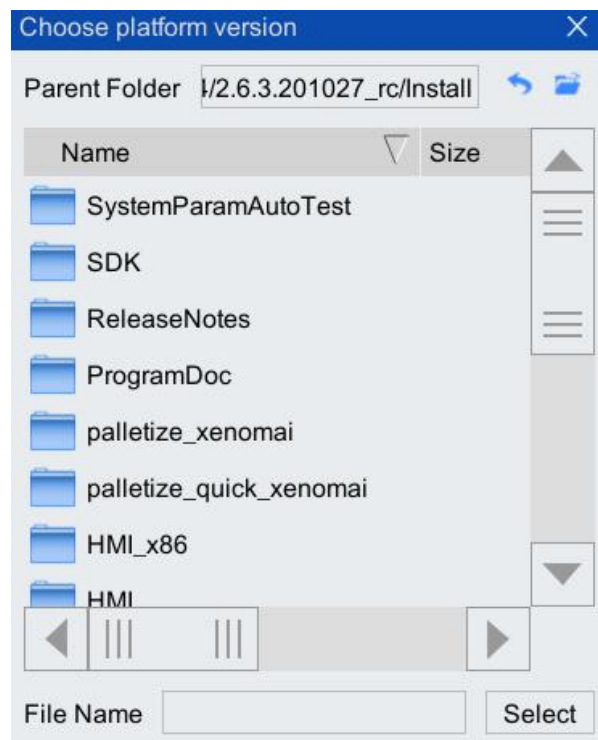
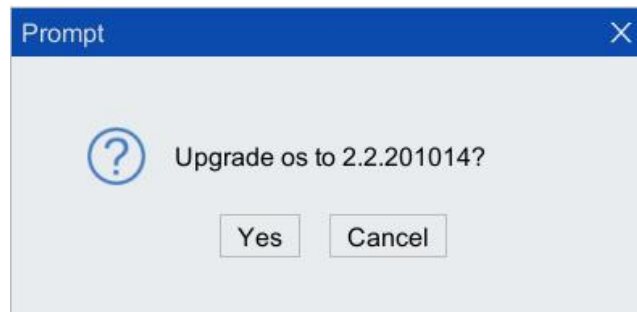

Figure 8-54 "Please select upgrade file"list box
Figure 8-56 "Upgrade os to \*\*?" prompt dialog box
- Step2. Switch the path from Figure 8-54 to the path where the platform upgrade file is located, select the platform upgrade file, click the <Select> button, and the "Upgrade os to \*\*?" prompt dialog box shown in Figure 8-56 will pop up, Click the <Yes> button.